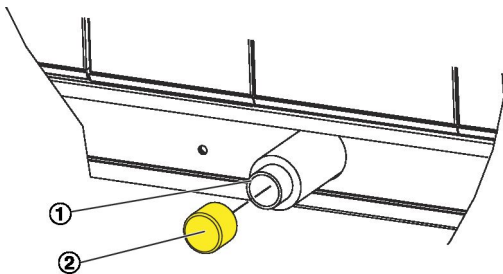

Fig. 31: Condensate drain
2. ▶ Remove the protective cap ( Fig. 31 /2) from each drain ( Fig. 31 /1) of the condensate drip tray.
4. ▶ Connect a drain trap to each condensate drain ( Fig. 31 /1).